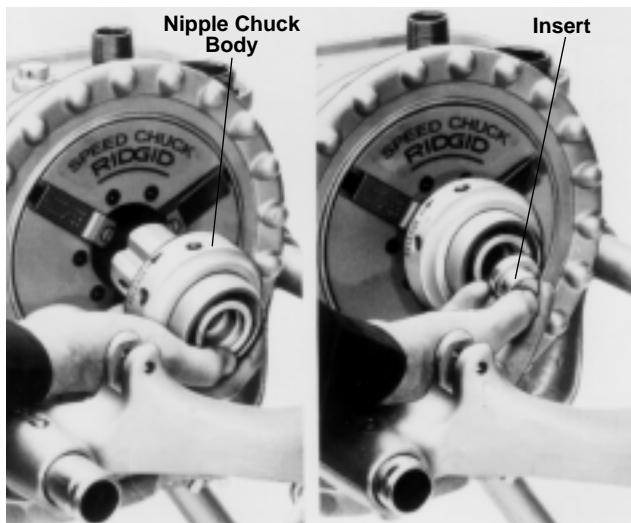

Figure 22 – Installing Nipple Chuck Body and Insert
2. Place nipple chuck body (Figure 22) in power drive chuck, gripping jaw grooves.
3. Position insert (Figure 22) small end toward adapter with  $\frac{1}{8}$ " to  $\frac{3}{4}$ " pipe; large end with 1" pipe; no insert 1 $\frac{1}{4}$ " pipe and up.